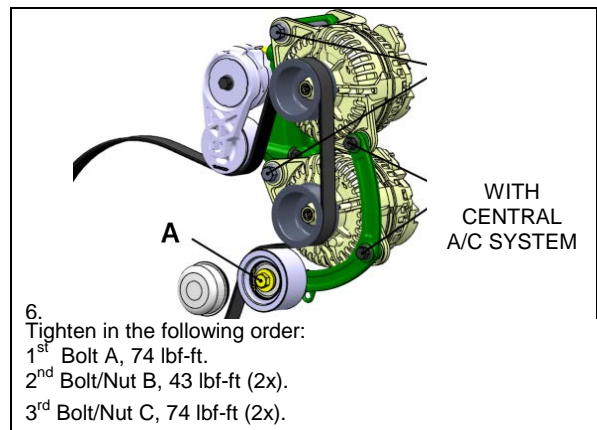
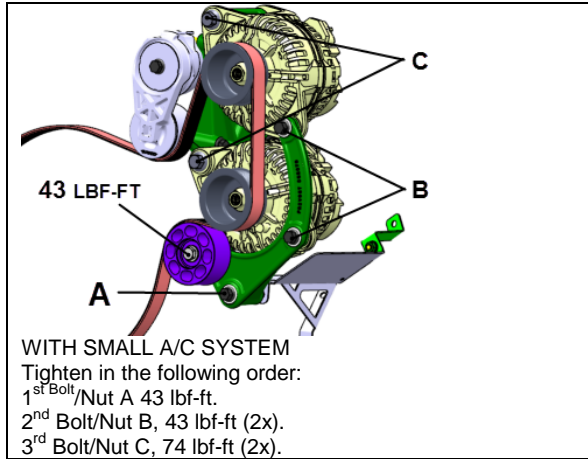

FIGURE 23: ALTERNATOR MOUNTING, TIGHTENING SEQUENCE – CENTRAL A/C SYSTEM
FIGURE 24: ALTERNATOR MOUNTING, TIGHTENING SEQUENCE – SMALL A/C SYSTEM
7. In order to assure installation, it is important to tighten the alternator mounting bolts in proper sequence. (fig.23 & fig.24).
The vehicle may be equipped with an engine immersion-type electric block heater to assist cold weather starting. The heater male electric plug is located on the engine compartment R.H. side door (fig. 23). To use it, connect the female plug of an electrical extension cord to the heater plug.